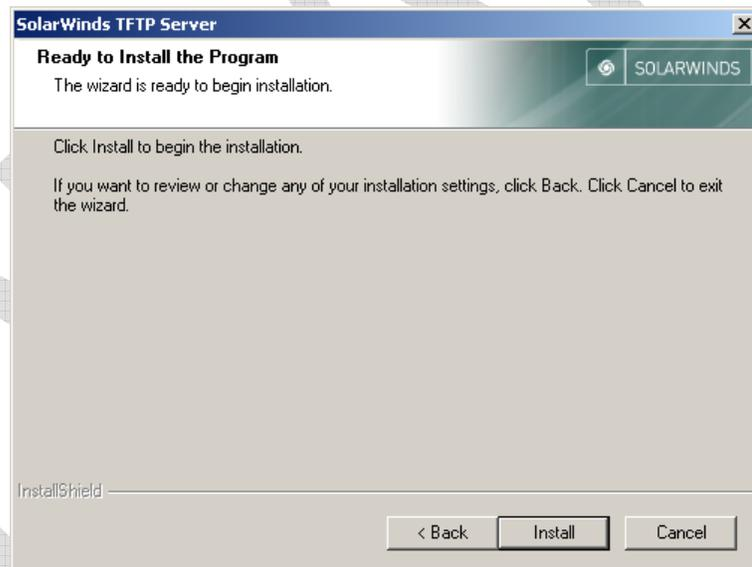

Figure C-9: Ready to Install the Program
10. Select **Install** inside the *Ready to Install the Program* window to start the installation. Refer to Figure C-9.